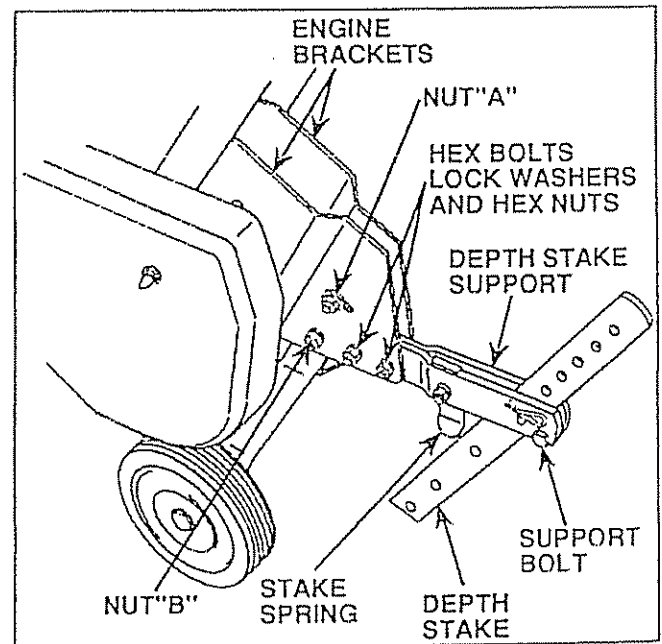

FIGURE 3
- Insert Depth Stake Support between Engine Brackets with Stake Spring down. NOTE: IT MAY BE NECESSARY TO LOOSEN NUTS "A" & "B" (Fig. 3)